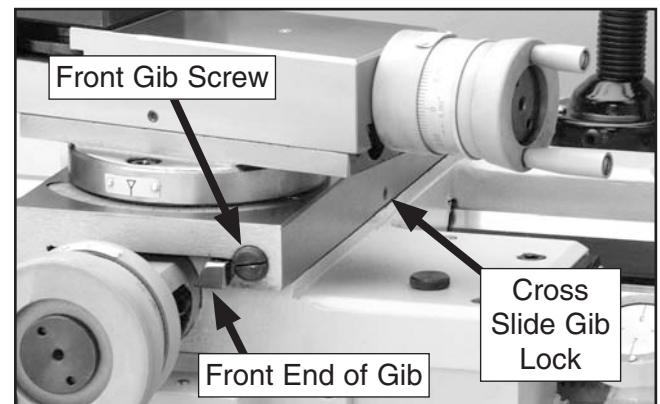

Figure 95. Cross slide gib components.
The cross-slide and compound slide on this lathe each use a long steel wedge called a gib that is positioned between the component and its dovetailed-ways. At the end of each gib is a gib screw one of which is shown in **Figure 95**. The screws at each end of the gib oppose one another to move and hold the gib in a forward or aft position. Depending which direction the gib is moved and held, the space between the sliding ways is increased or decreased to control the rigidity of the cross slide and compound slide.
Tip: The compound and cross slide gibs have a gib lock screw that are shown in **Figures 95–96**. This screw allows the machinist to quickly tighten the locks to hold a gib and slide in a rigid position without having to tighten the gibs. When finished with the need for increased rigidity, the gibs then are quickly unloaded back to their normal state by loosening the screw.
2. Loosen the gib lock shown in **Figure 95**.